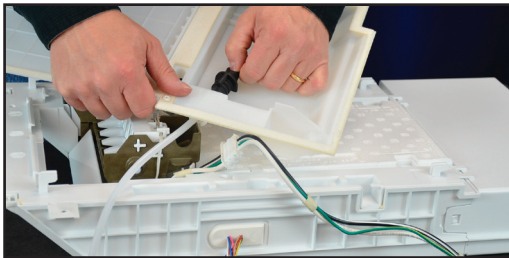

FIGURE 35
9. Remove ice maker fill tube by pushing into ice box cover and pulling through hole. See *Figure 35*.